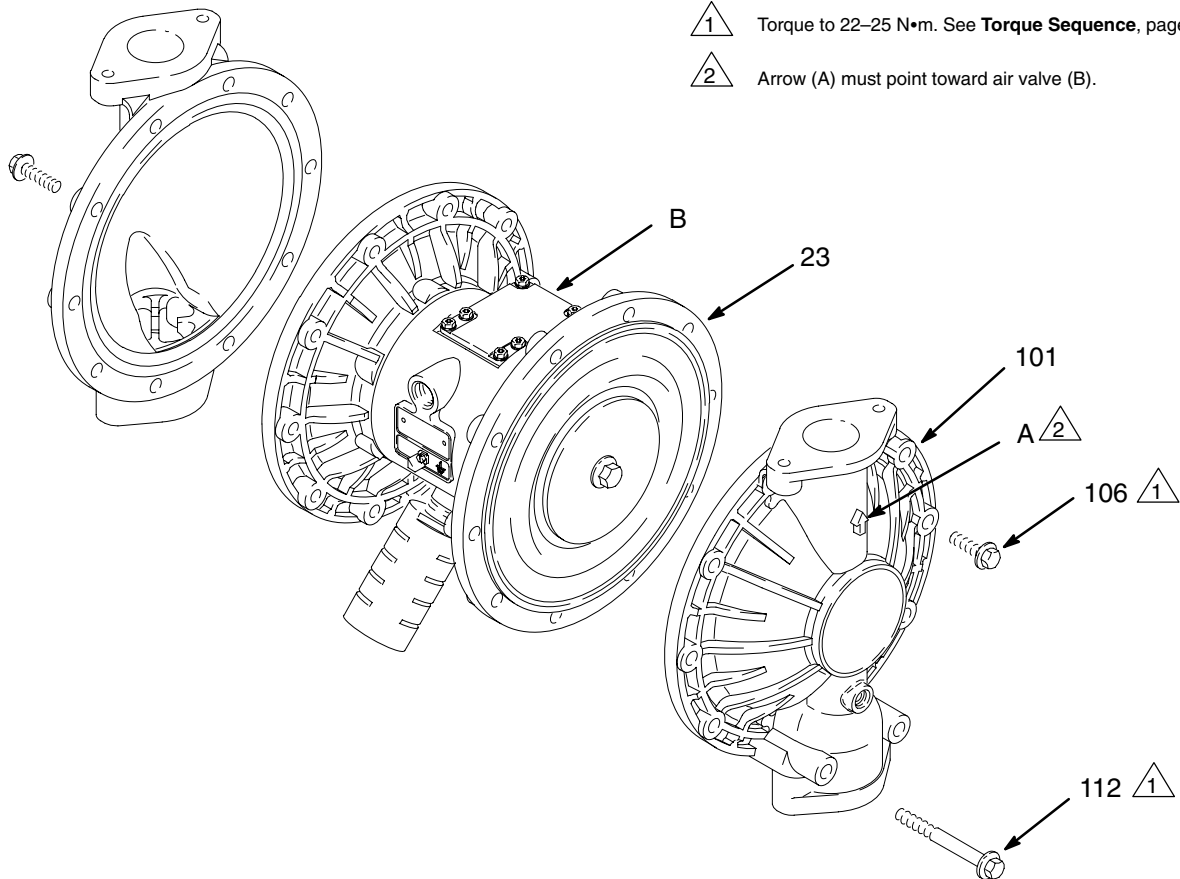

Fig. 11
3. Using a 13 mm socket wrench, remove the screws (106 and 112) holding the fluid covers (101) to the air covers (23). Pull the fluid covers (101) off the pump. See Fig. 11.
- 2 Arrow (A) must point toward air valve (B).
2. Install the diaphragm assembly on one end of the shaft (24) as follows:
- a. Install the o-ring (108*) on the shaft bolt (107).
6. Align the fluid covers (101) and the center housing (1) so the arrows (A) on the covers face the same direction as the air valve (B). Secure the covers with the screws (106 and 112), handtight. Install the longer screws (112) in the bottom holes of the covers. See Fig. 11. Using a 13 mm socket wrench, torque the screws oppositely and evenly to 22–25 N•m. See **Torque Sequence**, page 28.